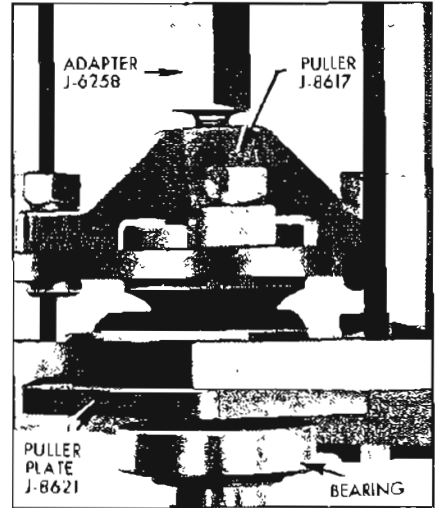

Figure 6-7—Removing Axle Shaft Bearing
2. Press axle shaft bearing off using Puller Plate J-8621 with Remover J-6525. An arbor press may be used or a set-up may be made using Ram and Yoke Assembly J-6180 with Adapter J-6258 and Puller J-5748. See Figure 6-7.